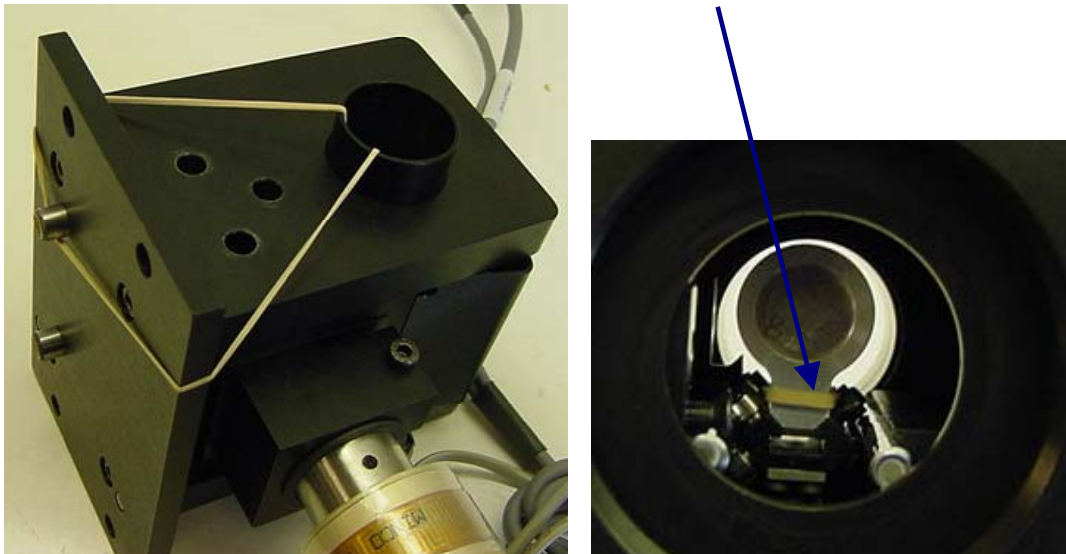

Figure 1.1: Cut and pull out rubber band when unpacking. If later shipment required, firmly hold lens in place with rubber band as shown.
- Firmly hold dynamic focusing module lens in place with rubber band if shipping unit, see figure 1.1 below.